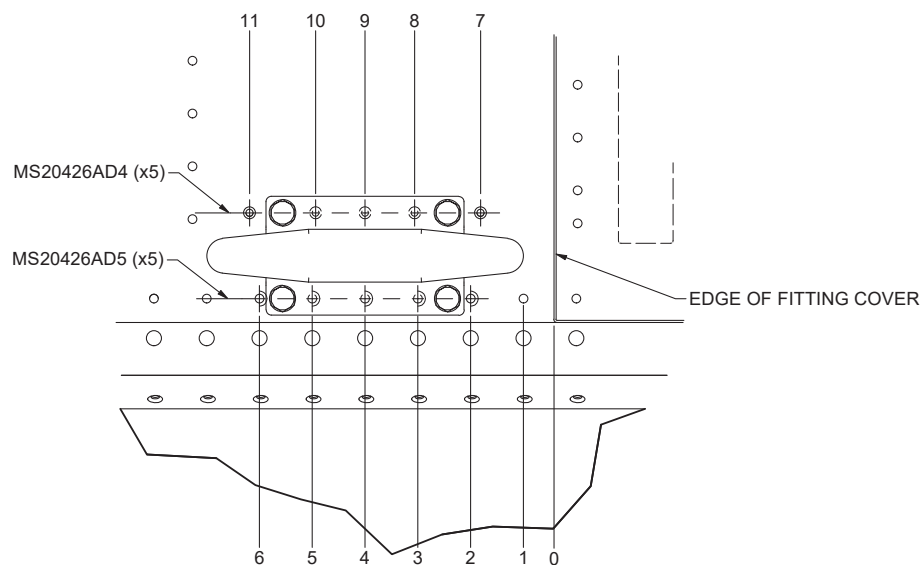

Figure 2
2. Remove 5 rivets from topskin at location 2 through 6. (See Figure 2)
4. Match drill the rivet holes from the doubler through the top skin (locations 7 through 11, Figure 2).
5. Countersink holes 2 through 11 (See Figure 2) and flush rivet with noted fasteners.
1. Drill the 0.25 (2) bolt holes from the doubler through the topskin.
2. Temporarily locate the cleat onto the topskin using the 2 bolt holes. Refer to Figure 2 for positioning.
3. Match drill remaining 0.25 (2) holes from the cleat through the topskin, gunwall, and bathtub fitting.